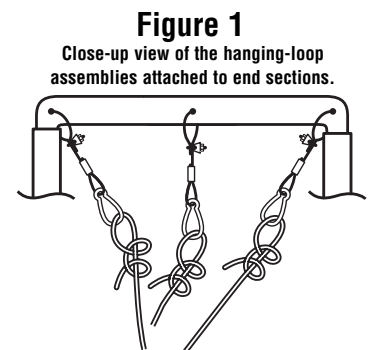

Figure 1
3. After hanging the net on the middle frame section, making sure that it does not sag more than 1-2', pull the ropes towards the end frames to stretch it out. Attach each rope to the end frame sections with the corresponding hanging-loop assemblies. **See Figure 1.**